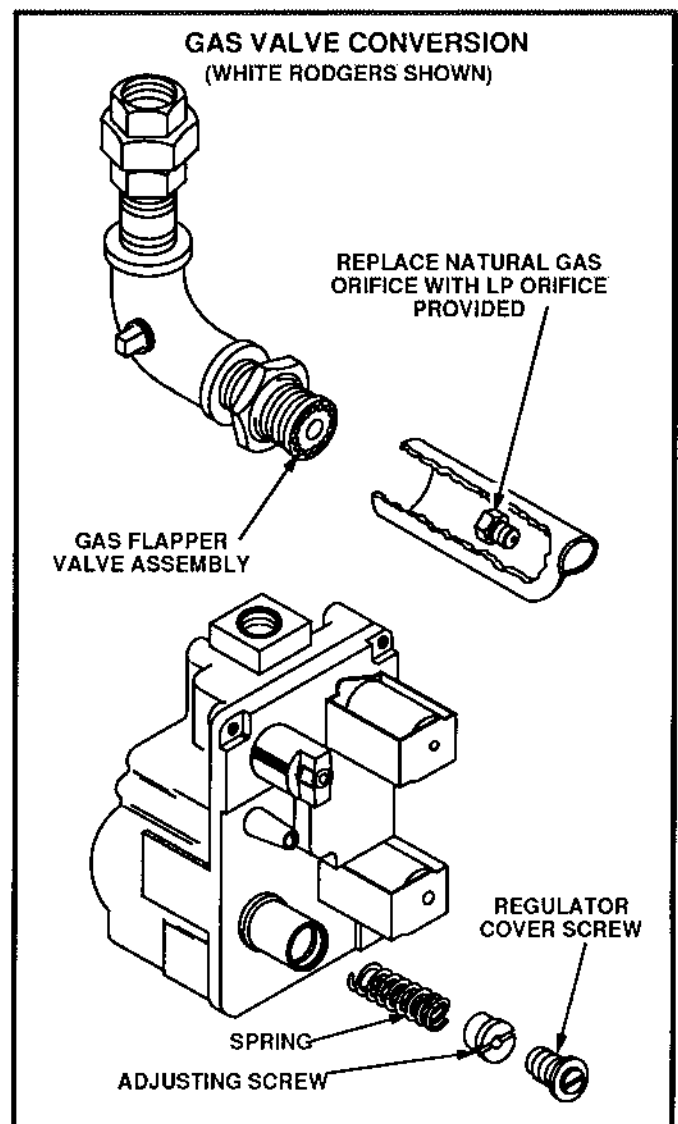

FIGURE 10
**3- Gas Valve Conversion (Figure 10)**
Using the kit to change unit from natural to L.P. gas, the existing orifice located in the elbow/gas flapper assembly must be removed and replaced with the orifice provided in the kit. See figure 10 for an example of a White Rodgers gas valve changeover.
The differential pressure switch is mounted next to the make-up box (see parts arrangement). It is connected to the air intake and exhaust outlet by separate lengths of flexible plastic tubing. Note that each flexible hose connects to barbed adapter at the differential pressure switch (Figure 10). Each adapter has a built-in orifice of 0.018" I.D.